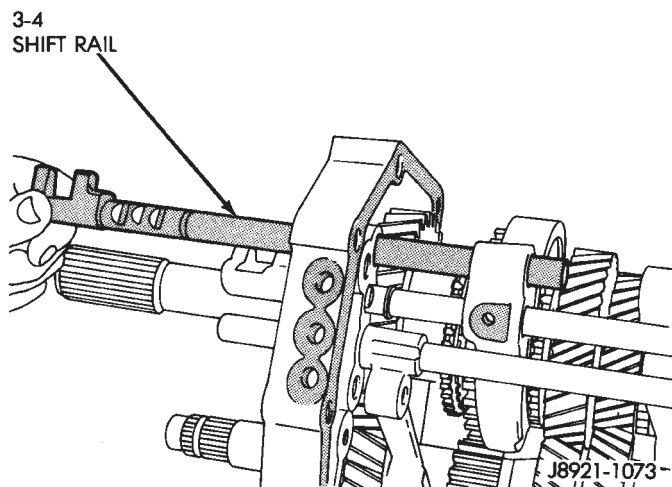

Fig. 94 Installing 3-4 Shift Rail
(10) Install 3-4 shift rail in intermediate plate and in both shift forks (Fig. 94).
(11) Verify that none of the interlock balls, plugs, or pins were displaced during shift rail installation.